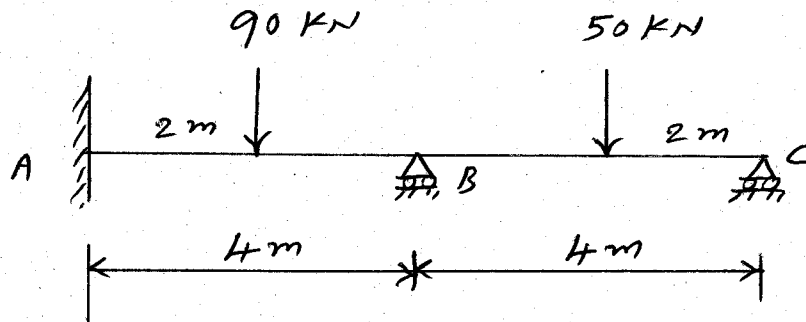

Fig.1
- (2) Assume suitable data if required and mention it clearly.
- (3) Use of non-programmable calculator is permitted.
- (4) Figures to the **right** indicate full mark.
- 1 (a) Analyse the continuous beam shown in figure 1, if the downward settlement of supports B and C are 10 mm and 5 mm respectively. Take $EI = 184 \times 10^{11}$ N.mm². Use flexibility matrix method. 12